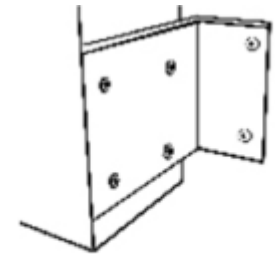

Figure 2. Rack-mount bracket on plywood backing
- 2) Attach the bracket to $\frac{3}{4}$ " or thicker plywood backing using four (4) $1\frac{1}{2}$ " wood screws as shown in Figure 2. Rack-Mount bracket on plywood backing.